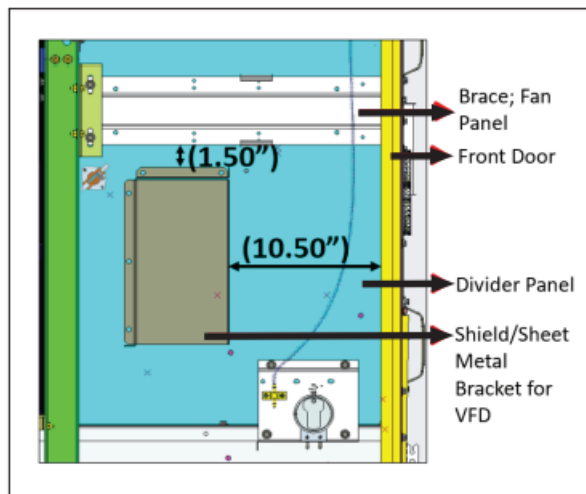
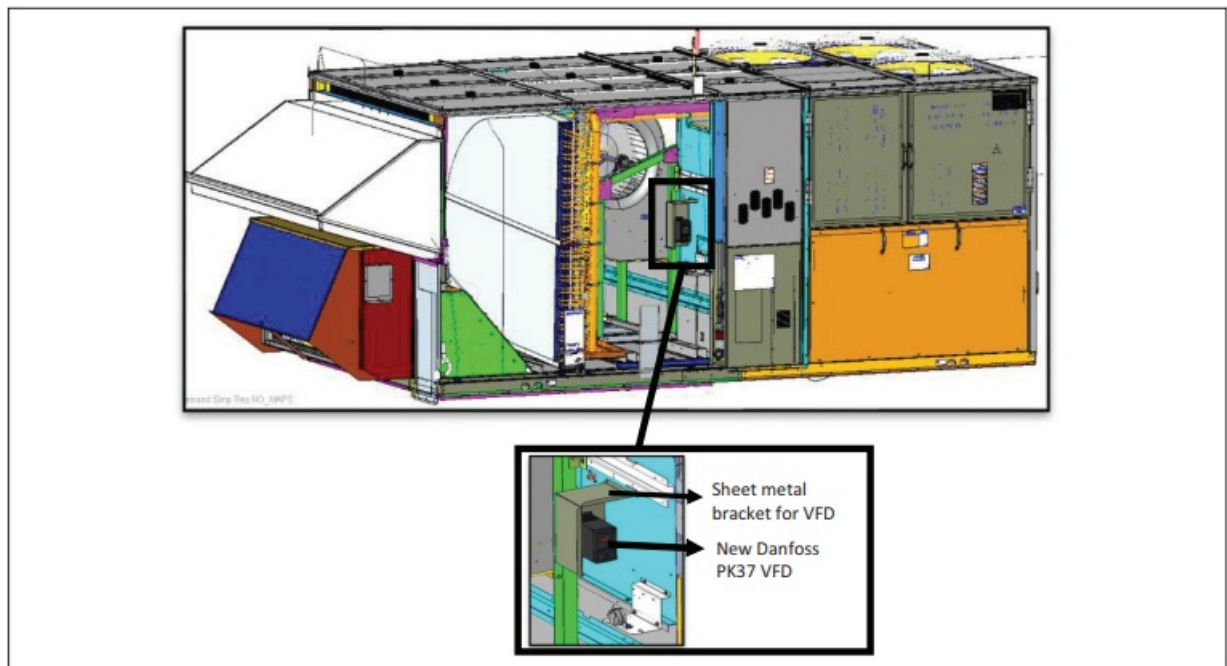

Figure 8: Placement of the shield metal bracket on the divider panel
Figure 10: Placement of VFD in the unit
2. Mount the VFD shield bracket to the divider panel as per the dimensions given in Figure 8 and Figure 10